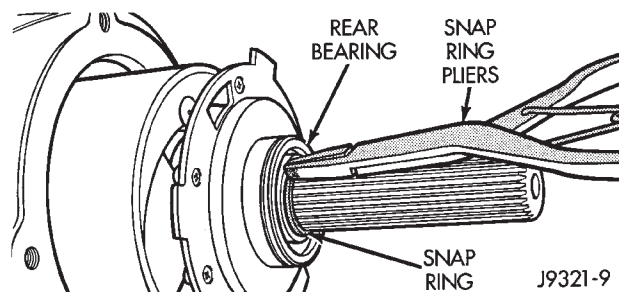

Fig. 62 Rear Bearing Snap Ring Installation
(40) Install rear bearing retaining snap ring (Fig. 62).